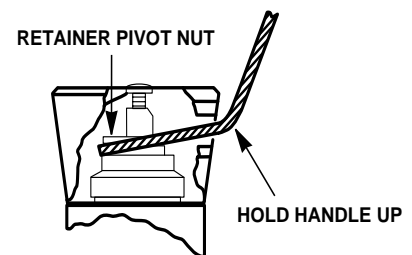

FIGURE 1
4. Press cartridge stem down. **Holding handle UP**, Figure 1, hook handle ring (inside the handle body) into groove on the retainer pivot nut.